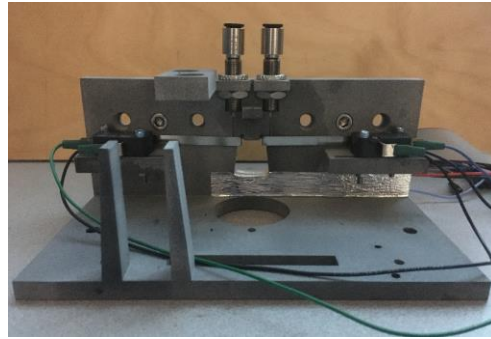

Fig.5.4
5.2. Set up switches (Fig.5.4):